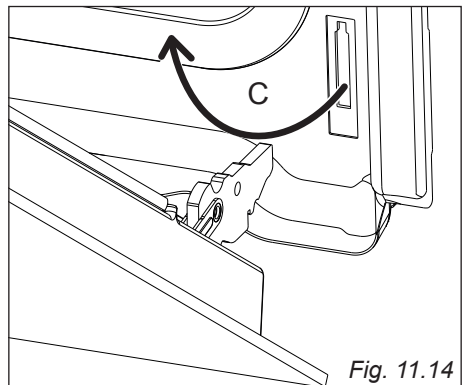

Fig. 11.14
- Withdraw the hinge hooks from their location following arrow "C" (fig. 11.14).